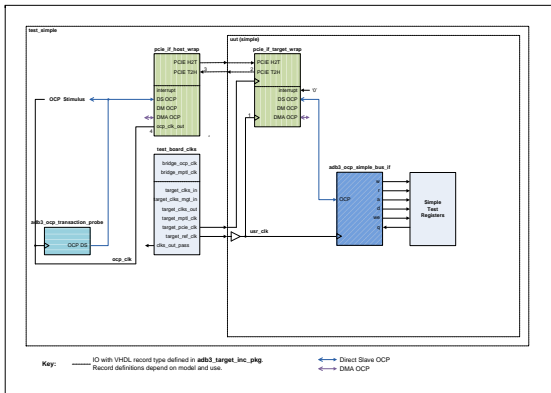

Figure 16 : Simple Design Testbench and Top Level Block Diagram (PCIe)
Figure 16 shows the testbench and embedded simple FPGA design (PCIe).
- The testbench OCP clock `ocp_clk_out` path is shown in Figure 16 as the route consisting of points 1, 2, 3 and 4.